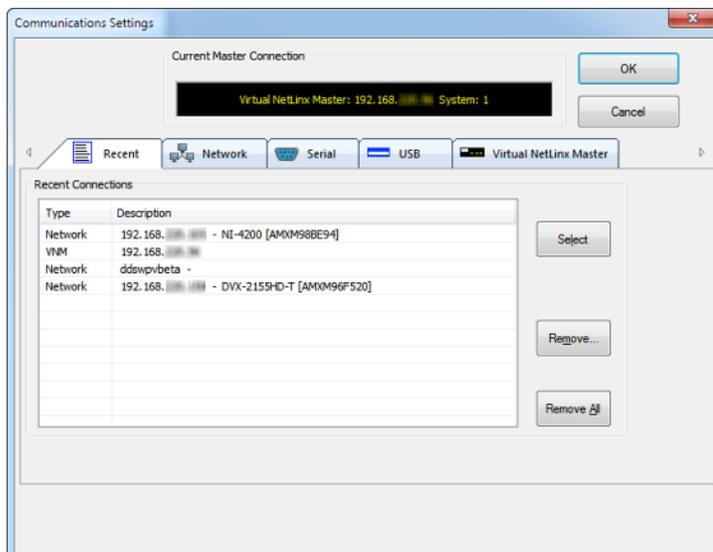

FIG. 5 Communication Settings dialog - Recent tab
- Click the **System Settings** button to open the *Communications Settings* dialog (FIG. 5). If there is no system selected, click the **Default Settings** button to open the dialog.